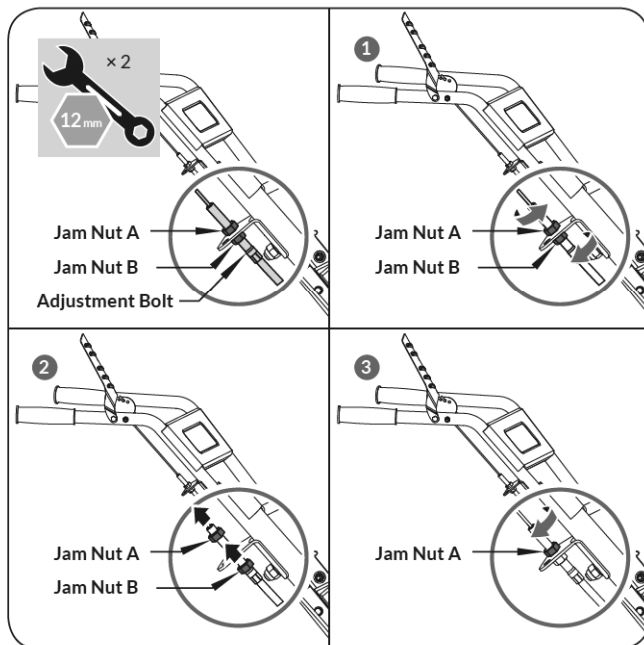

Figure 15
1. Loosen the jam nut A and jam nut B by turning them with two 12mm wrenches at the same time. (See **Figure 15, Illustration 1**)
2. Loosen jam nut A enough so the jam nut B can be rotated. Then, screw the jam nut B up until desired cable tightness is reached. (See **Figure 15, Illustration 2**)
3. Screw the jam nut A down to lock jam nut B. (See **Figure 15, Illustration 3**)